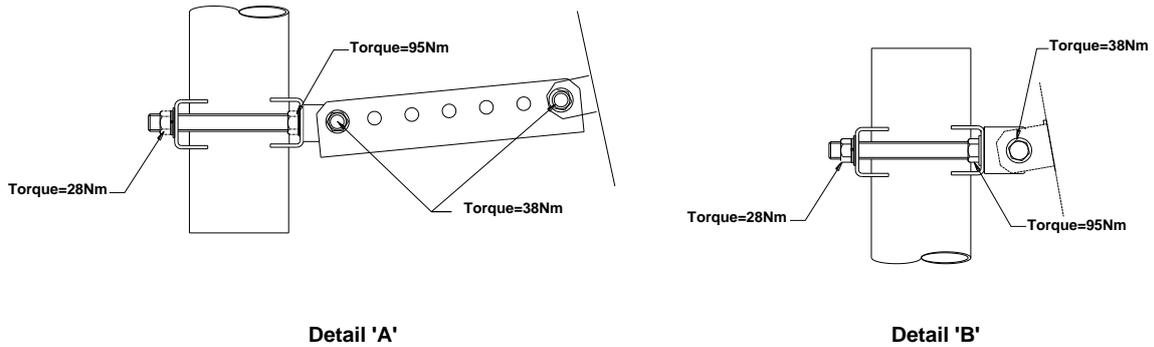

Figure 6. Setting mechanical up tilt
2. 2°-12° mechanical downtilt in 2° steps can be achieved by aligning the corresponding hole in the tilt arm to the pivot bracket which mates against the mounting pole, as shown in Figure 5 or Figure 6. The first hole is for 2° mechanical downtilt, with each consecutive hole resulting in an increased inclination of 2°.
4. When the tilt arm is used in the lower mounting bracket as shown in Figure 6, the mechanical uptilt can be set to 0° or to any angle from 2° to 12° in 2° steps. The electrical beams emerge from the front of the antenna with a 6° electrical downtilt so the mechanical uptilt needs to be subtracted from the 6° electrical downtilt to find the actual downtilt of the beams.